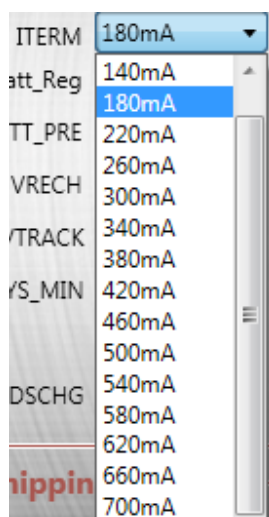

Figure 10: Setting the Termination Charge Current
- The default value is 180mA (see Figure 10).